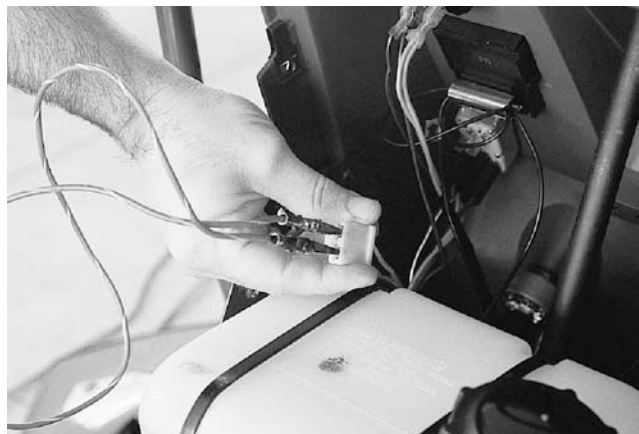

Figure 3-28.
18. If you have an electric PTO, remove the connector from the PTO switch. Jump between the two orange terminals. If the unit now cranks, replace the PTO switch. See Figure 3-28.